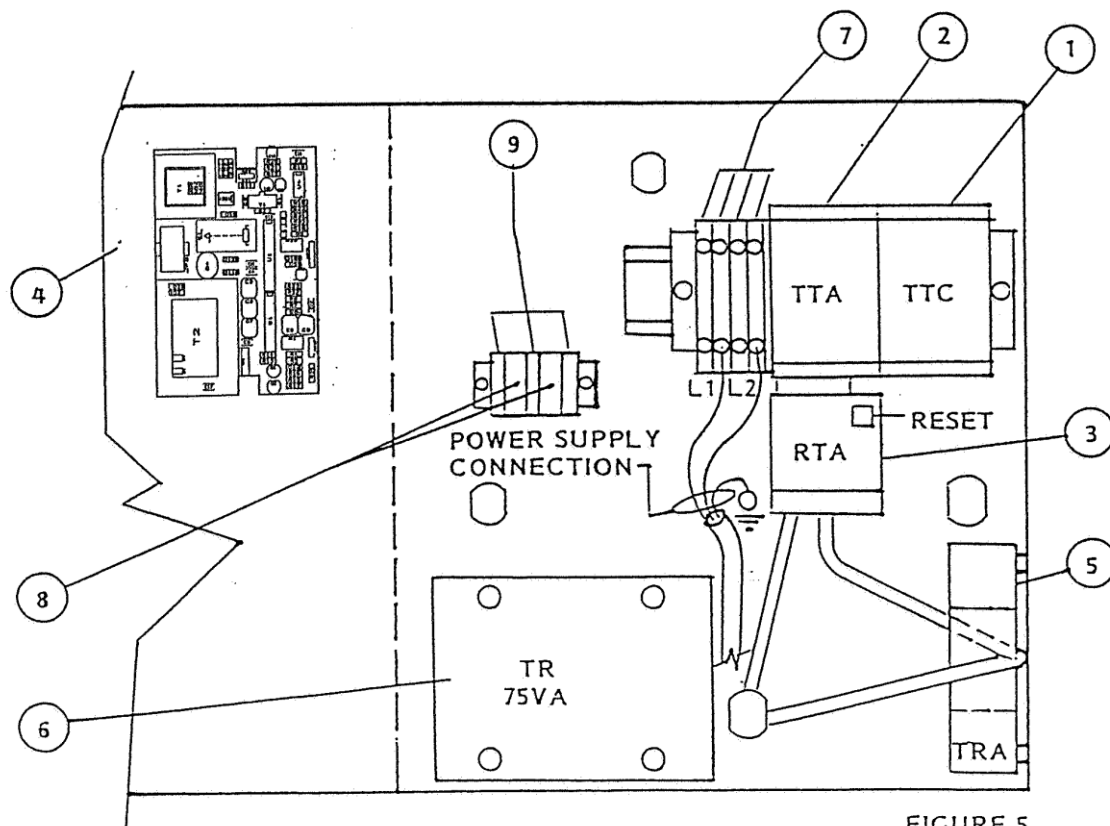

FIGURE 5
D) ELECTRICAL CONNECTIONS (REF. FIG. 5).
D) ELECTRICAL CONTROL PANEL (Ref. Fig. 5)